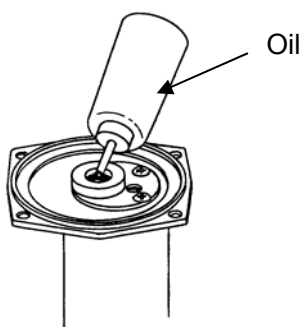

Figure 7-17
- f) Pour the new hydraulic oil into the bore of the handle (Figure 7-17).